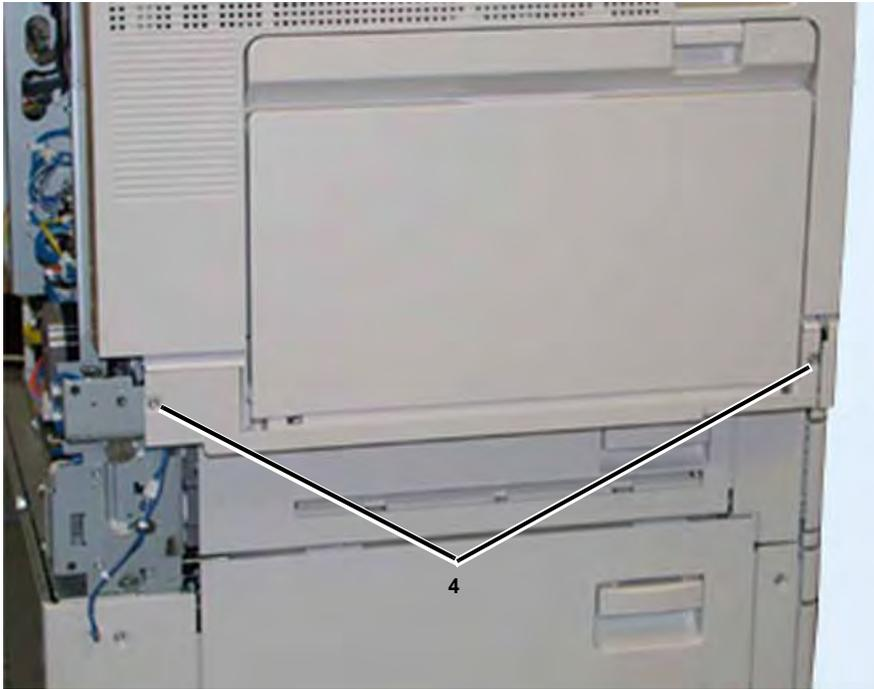

Figure 3 Removing Screws
4. Remove the screws (2) and slide out the MSI (Figure 3).